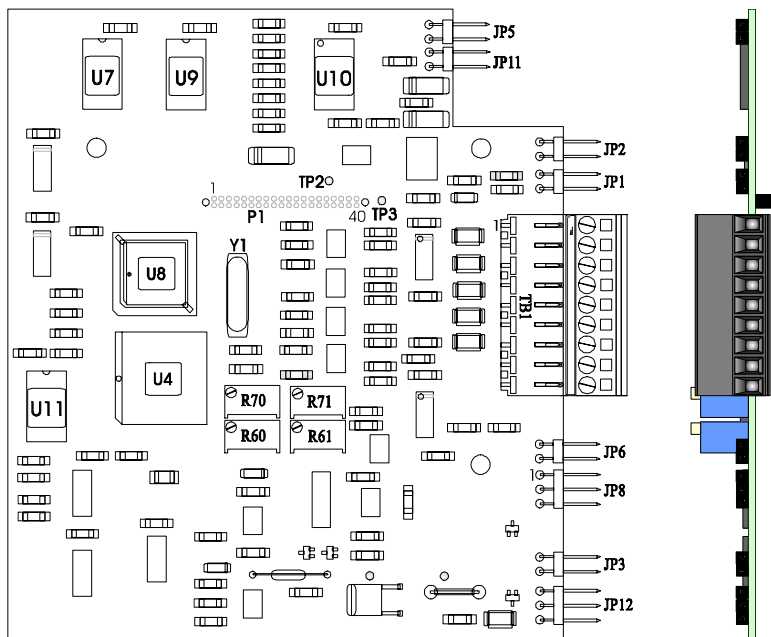
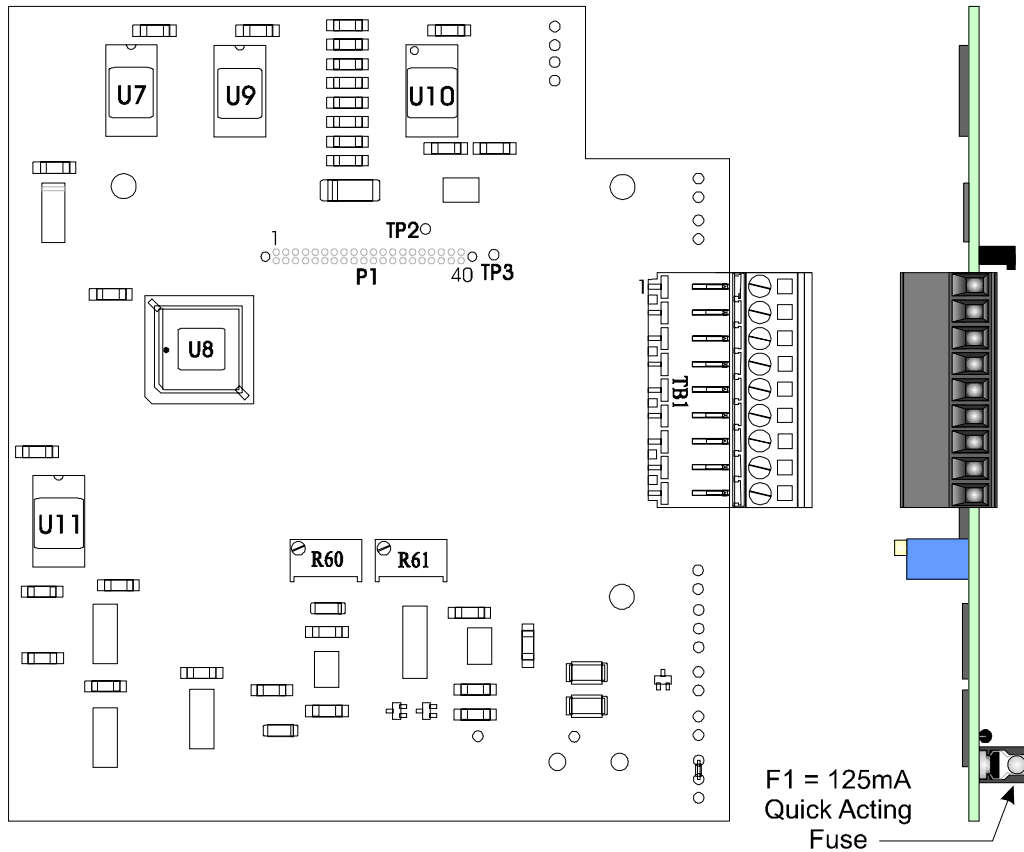
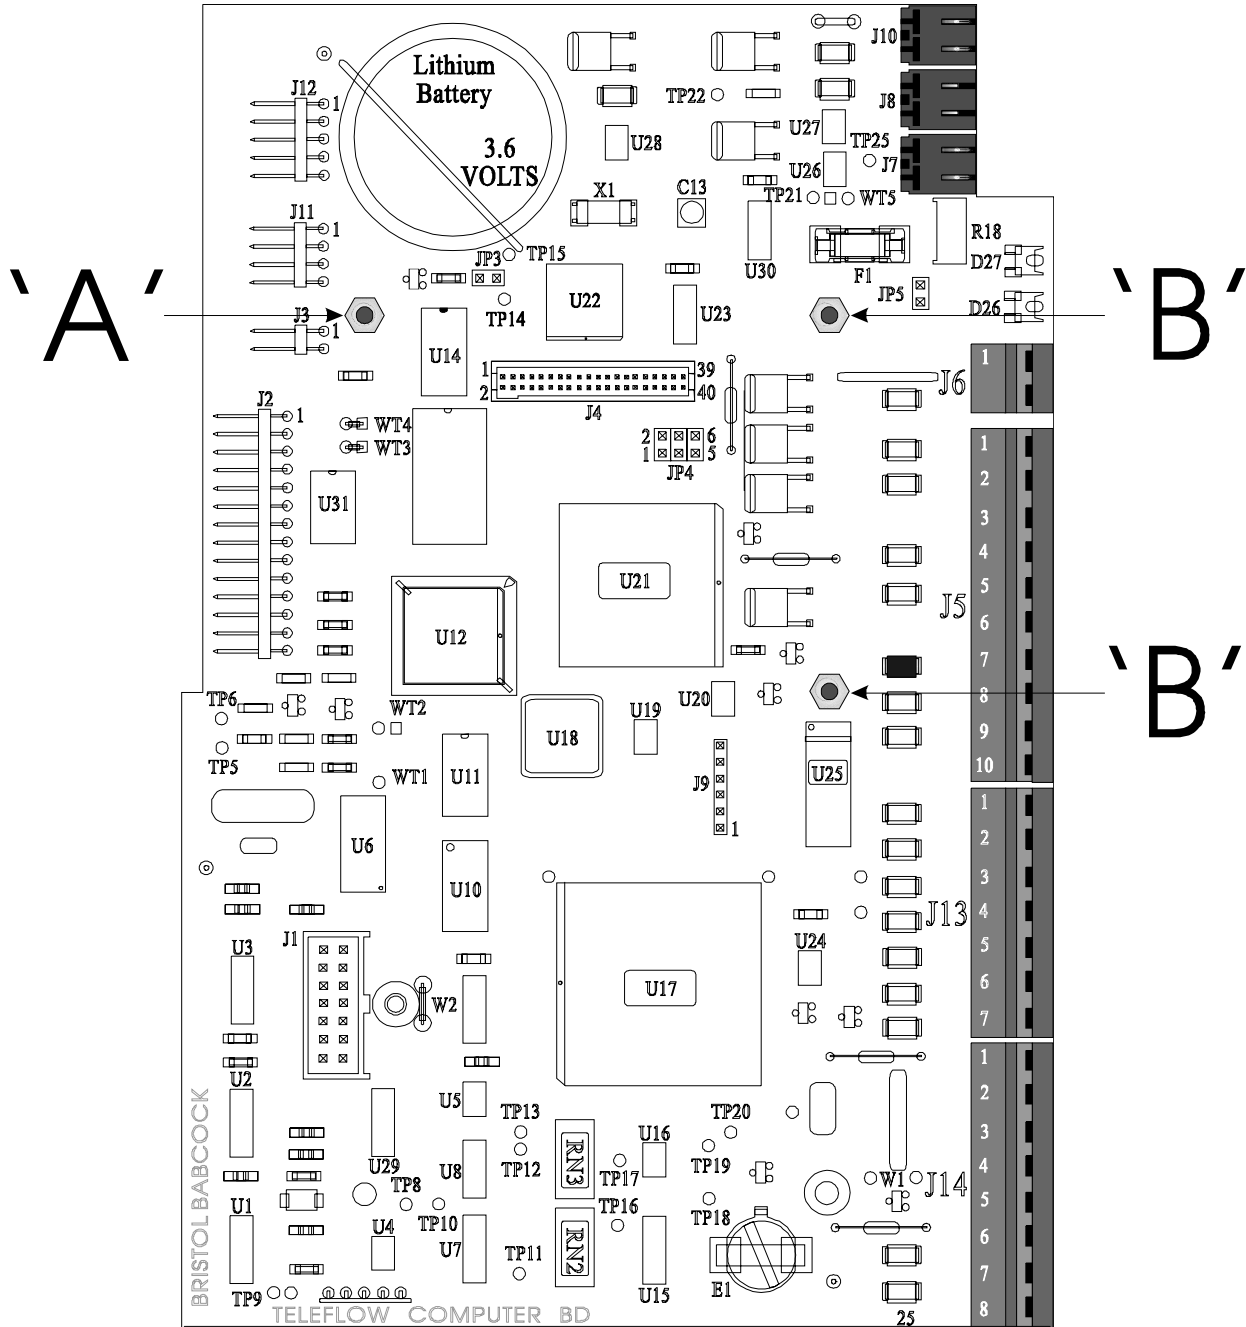

Figure 1 - EXP485/AO Board (with RS-485 & Configurable AO)
Figure 2 - EXP485/AO Board (with 1-5Vdc AO and without RS-485)
Figure 3 - TeleFlow CPU Board – Installation Drawing #1
EXP485/AO Boards do not contain LEDs or switches. Fully populated EXP485/AO Boards (P/N 392971-01-0) are provided with seven (7) configuration jumpers (see Figures 1 & 11). Depopulated EXP485/AO Boards (P/N 392971-02-0) are factory set for 1-5Vdc AO operation and don't have configuration jumpers (see Figure 2). Two connectors are provided; 40-pin connector P1 mates with the host 3530-XX-X (connector J4 - TeleFlow CPU or J18 - TeleRTU CPU) and accommodates the TTL interface between the two entities, while 9-pin connector TB1 mates with the RS-485 device that is being interfaced to the 3530-XXX and/or an analog output device. Additionally, the 3.5mm pitch plugable connector TB1 is removable from its mating EXP485/AO Board socket.
7. Remove the screw (location 'A' in Figures 3 & 4) and the two (2) #4-40 x 5/8" Standoffs (location 'B' in Figures 2 & 3) which secure the CPU Board to the Main Mounting Bracket. Replace these items with the three new #4-40 x 15/32" Standoffs.
9. Secure the EXP485/AO Board to the CPU Board by installing three (3) #4-40 x .188" Standoffs at locations 'A' and 'B' (see Figures 3 & 4).
5. Remove the three screws (of five) that secure the CPU Board to the Sliding Mounting Bracket (locations 'A' & 'B' in Figures 3 & 4) and replace these items with the three new #4-40 x 15/32" Standoffs.